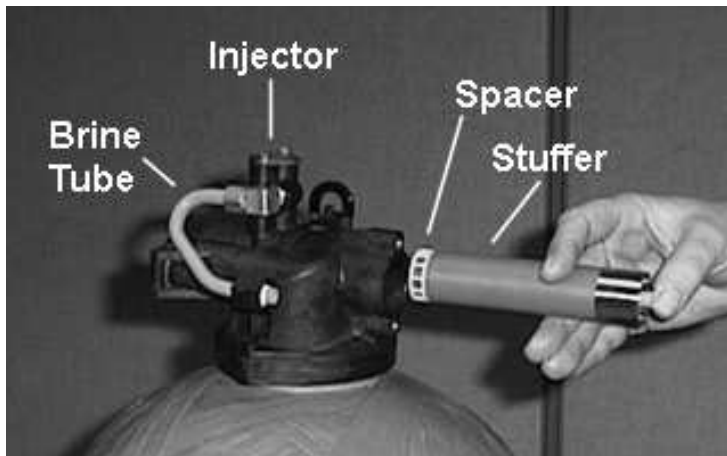

Figure 8
11. To replace seals, spacers and end ring, use special tool with the brass sleeve on one end. This is a double-purpose tool (see Figure 8). The male end acts as a pilot to hold the spacers as they are pushed into the valve body and the brass female end is used to insert the seals into the valve body.
12. To restuff a valve body, first take the end ring (the plastic or brass ring without holes), then with your thumb press the button on the brass sleeve end, the large dia. inner portion is now exposed (see Figure 8). Place the end ring on this pilot with the lip on the end ring facing the tool, and push the tool into the valve body bore until it bottoms. While the tool is in the valve body, take a seal and press it into the inside diameter of the exposed brass female end.